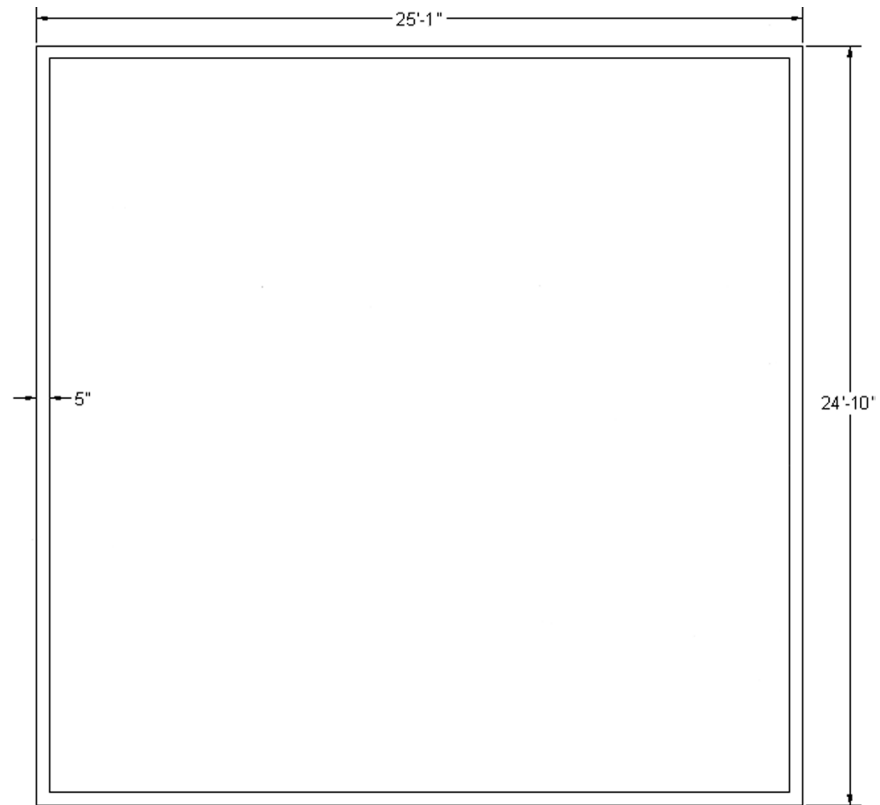

FIGURE 3.14 Floor plan, Step 7.
7. Explode both wall rectangles. This is needed to break apart the rectangles for use as the basis for the interior walls as well as doorways and windows. You should now have a total of eight individual lines, as seen in Fig. 3.14.